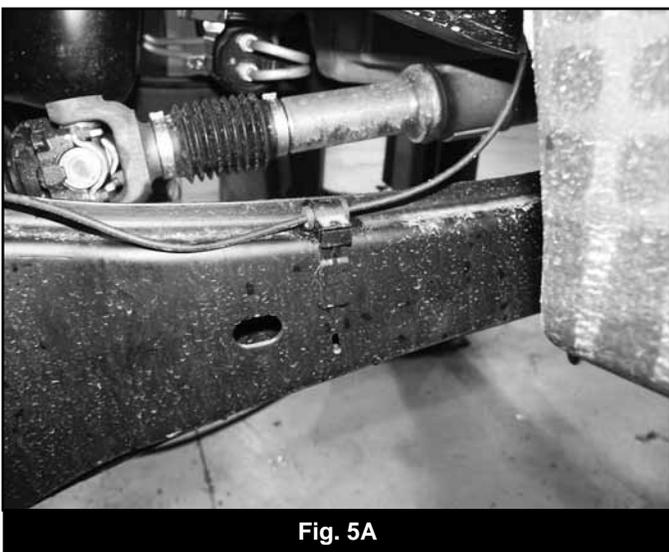

Fig. 5A
10. Remove the ABS line from the retaining tab on the radius arm (Fig 5A). Carefully pull the plastic retaining clip free from the radius arm (Fig 5B).